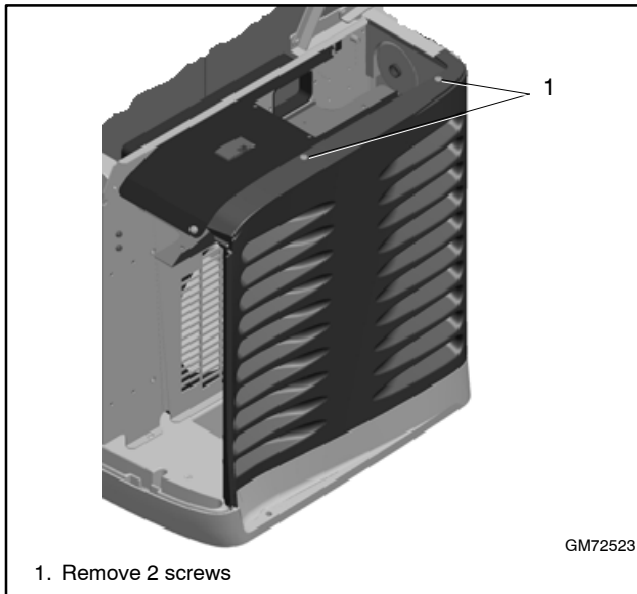

Figure 6-7 Front Panel (air intake end panel)
10. Remove two screws and remove the front panel. See Figure 6-7.